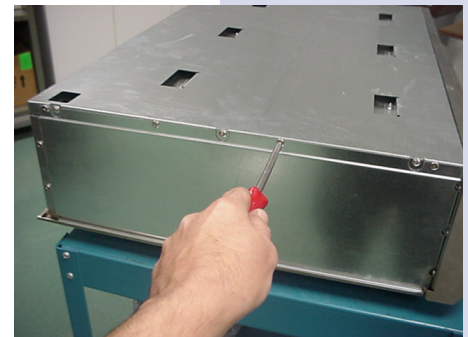

Figure 2
2. To remove the 2 heat shield panels, you must remove the 6 screws on each side. (Figure 2)